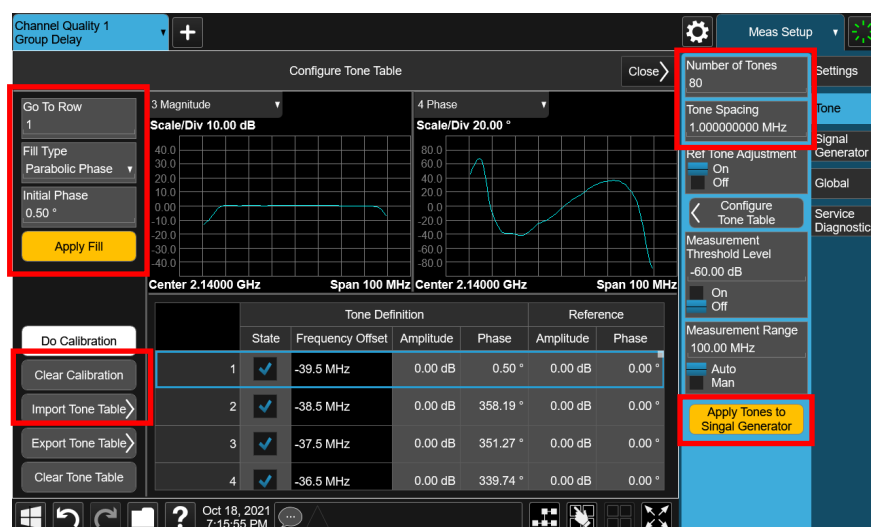

Figure 4. Multi-tone Configuration Table
1. Firstly, you can connect the signal generator and signal analyzer with a cable. Then go to [Meas Setup] and [Configure Tone Table] menu as Figure 4 and then press “**Do Calibration**” button. It will do the group delay reference measurement and the calibration data will be applied with the real measurement if you turn on the “**Reference Tone Adjustment**” which is turned on by default.